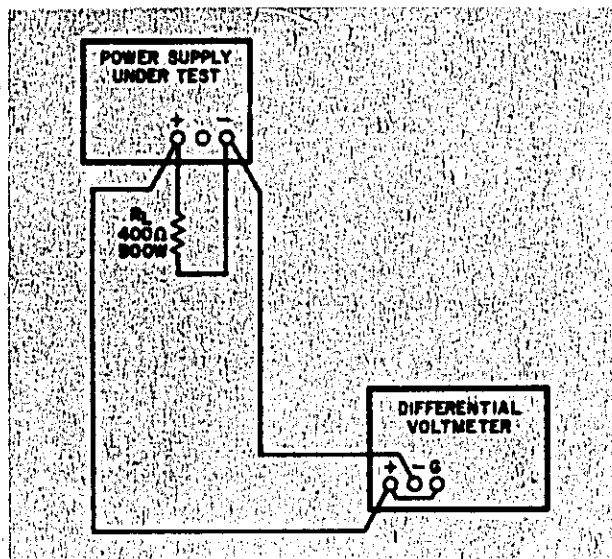

Figure 5-3. Constant Voltage Test Setup
- Connect load resistance across rear output terminals of supply. (Figure 5-3 shows values of load resistor used throughout the performance tests.)
- Connect test setup as shown in Figure 5-3.
- Connect test setup shown in Figure 5-3.